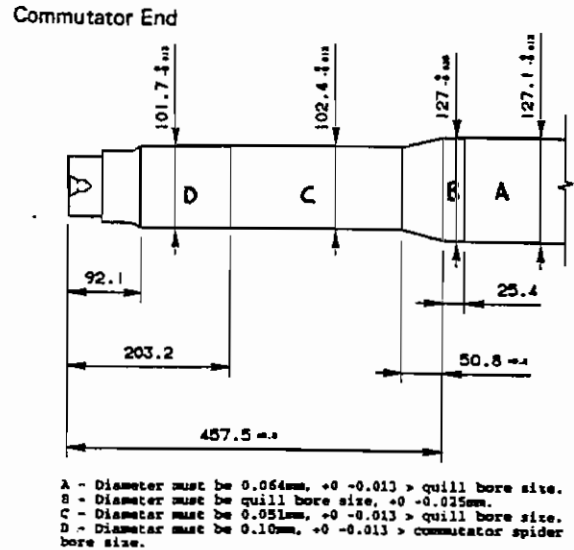

Fig. 14 - Interference Fit Between Shaft and Armature Core Bores
4. Check armature spider bores for taper and size. If bores are tapered, bores may be corrected by using an engine cylinder liner hone. Refer to Service Data for hone kit part number. If after honing, the bores are oversize, an oversize shaft must be used. Refer to Fig. 14 for interference required between the shaft diameters and the bores to maintain the proper tonnage when pressing in the shaft. Refer to Service data for part numbers and sizes of oversize that is available.